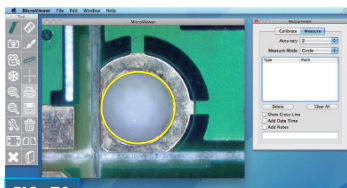

FIG. 70
5. Release the mouse button (Fig. 70).